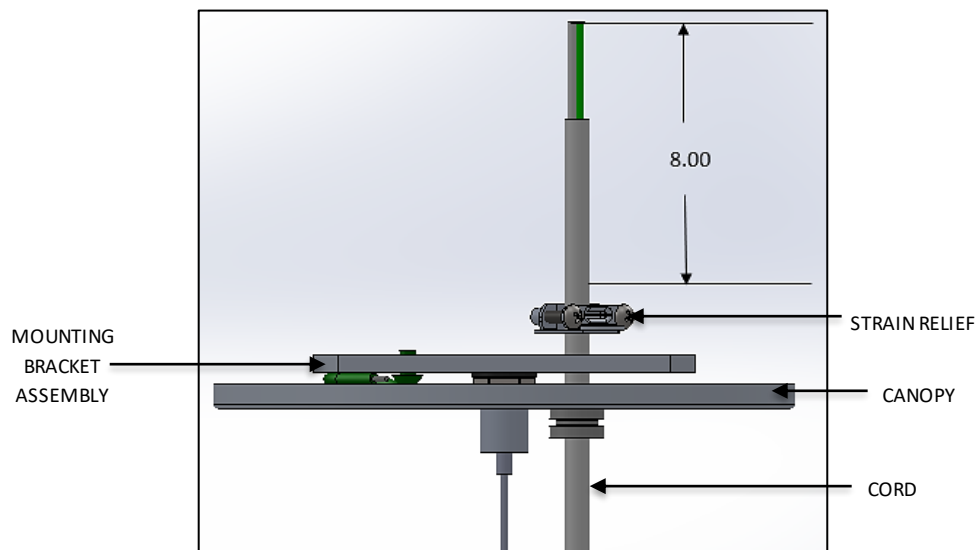

FIG. 33 – CORD INSTALLATION DETAIL
7. Make sure to leave minimum of 8.00" past the top of the STRAIN RELIEF for making wire connections to driver as shown below in FIG 33.